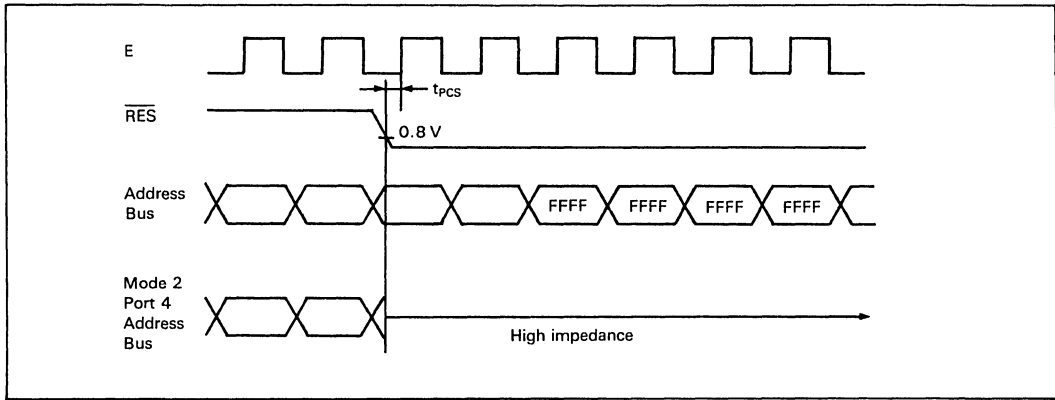

Figure III-19. Timing of  $\overline{\text{RES}}$  and the address bus
**Answer:** Timing of  $\overline{\text{RES}}$  and the address bus are as follows (figure III-19).